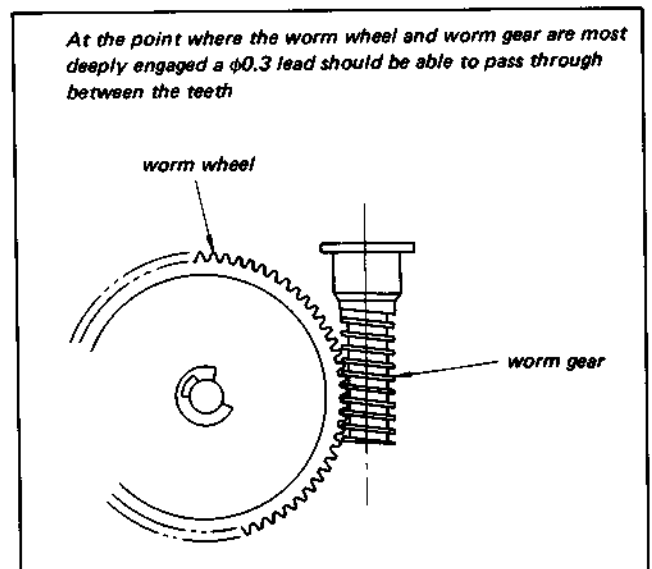

Fig. 3-42. Replacement of F.L. motor (2)
- 5) Check that the worm gear and worm wheel are engaged. (See Fig. 3-42)